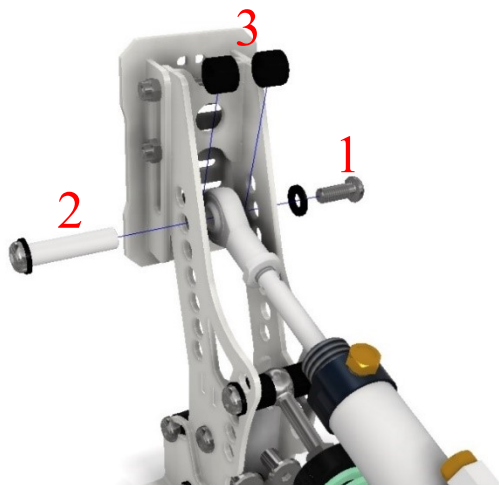

Fig. 7. Sequence of fasteners of the piston head
- C. move the piston head to the desired height and screw it on in the correct sequence of elements [Fig.7]